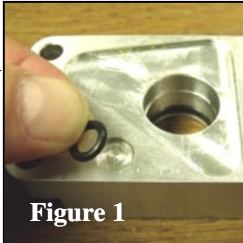

Figure 1
1. Locate new Adaptor Plate and baggie containing Cap Screws and two (2) O-Rings. Lightly grease and install small O-Ring as shown in Figure 1.